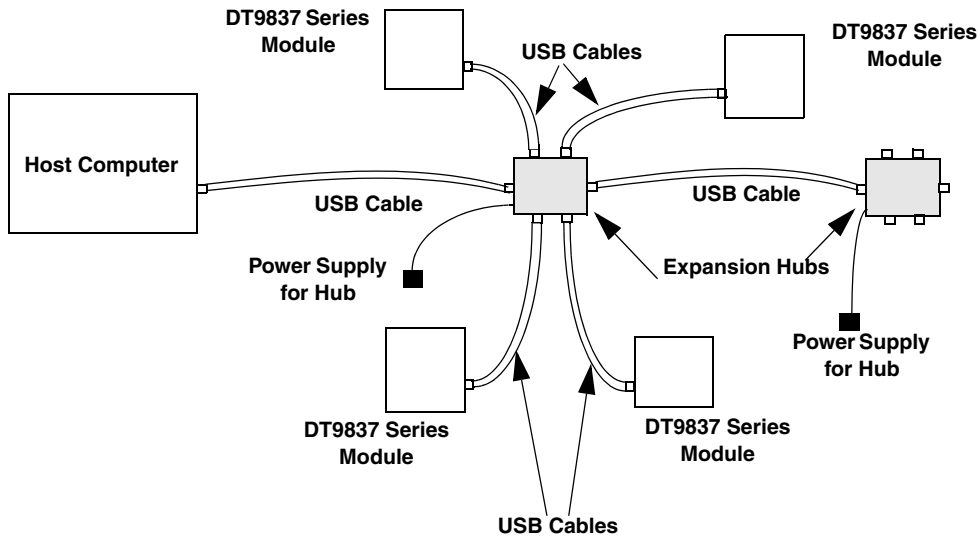

Figure 3: Attaching Multiple Modules Using Expansion Hubs
- 5. Repeat these steps until you have attached the number of expansion hubs and modules that you require. Refer to Figure 3.